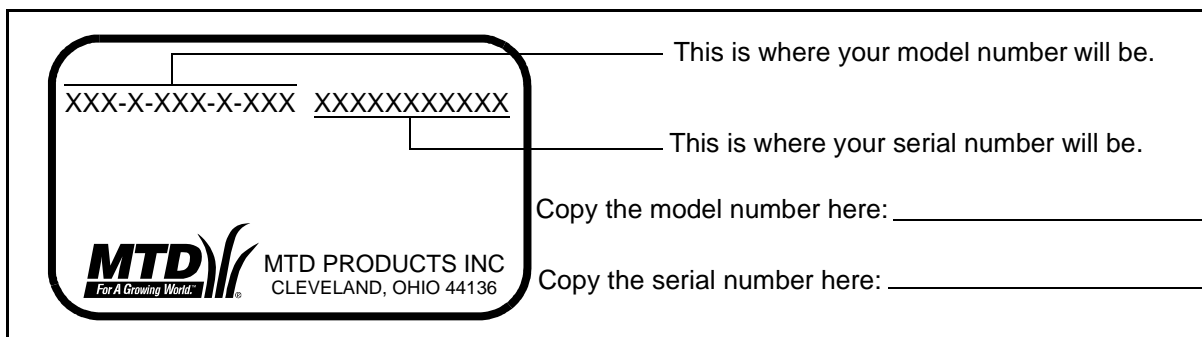

Figure 1
- You can locate the model number by standing behind the unit in the operating position and looking down at the rear frame below the engine. A sample model plate is shown below. See Figure 1.